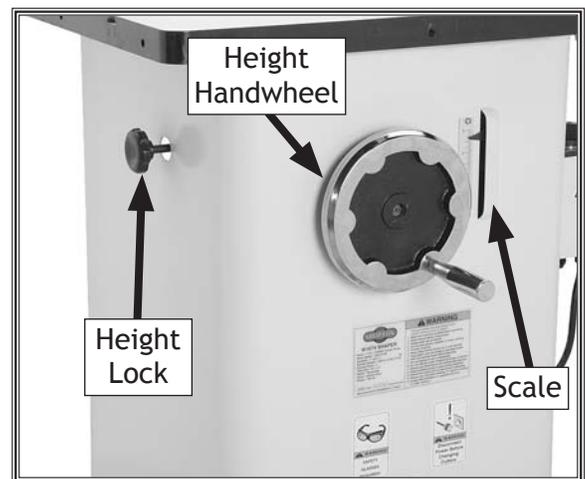

Figure 24. Spindle height controls.
2. Loosen the spindle height lock and rotate the height handwheel to bring the cutter to the required height, then re-tighten the lock (see Figure 24).